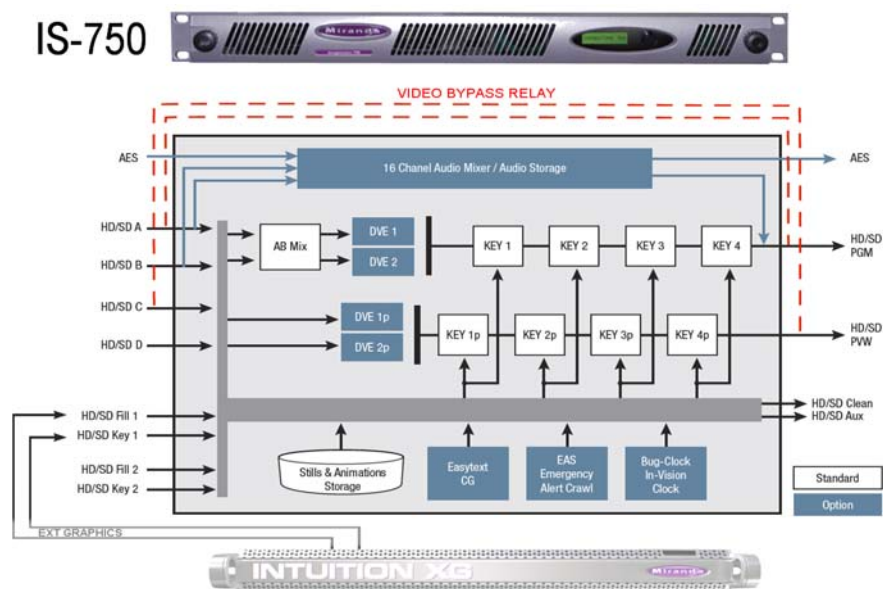

Fig. 2-1: Simplified Functional Diagram of the Imagestore 750 (Video)
An extensive range of options and upgrades are available for the Imagestore 750, including video A/B mixing, audio mixing, Emergency Alert System (EAS) and a temperature probe. Its high-performance graphics capability includes dual-window 2D DVEs on both program and preview outputs. See figures 2-1 and 2-2.
- The Imagestore 750's C and D inputs are available to feed the DVEs. They can also be used as extra fill and key inputs. See figures 2-1 and 2-2.
A fail-safe mechanical video relay bypass connects the A video source to the program output directly and connects the C video input to the preview output (PVW) directly when a power supply problem occurs. The bypass mechanism is shown in Figure 2-1.